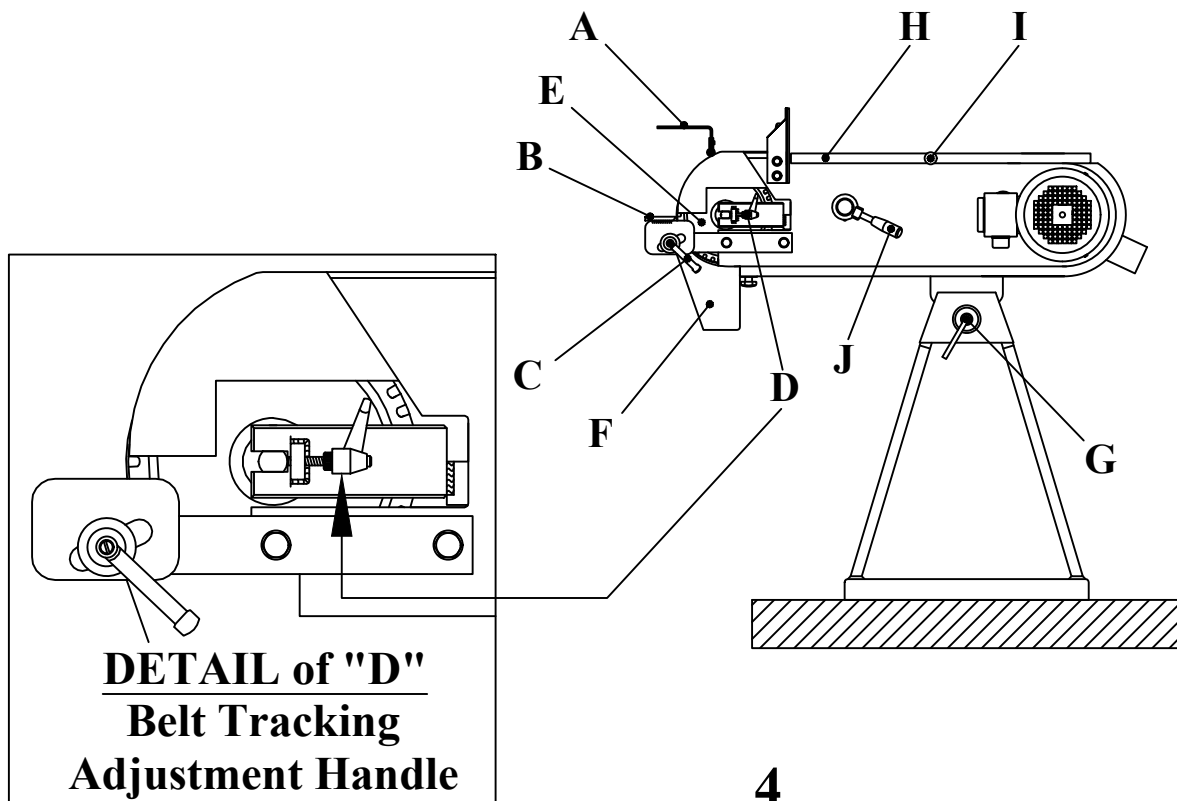
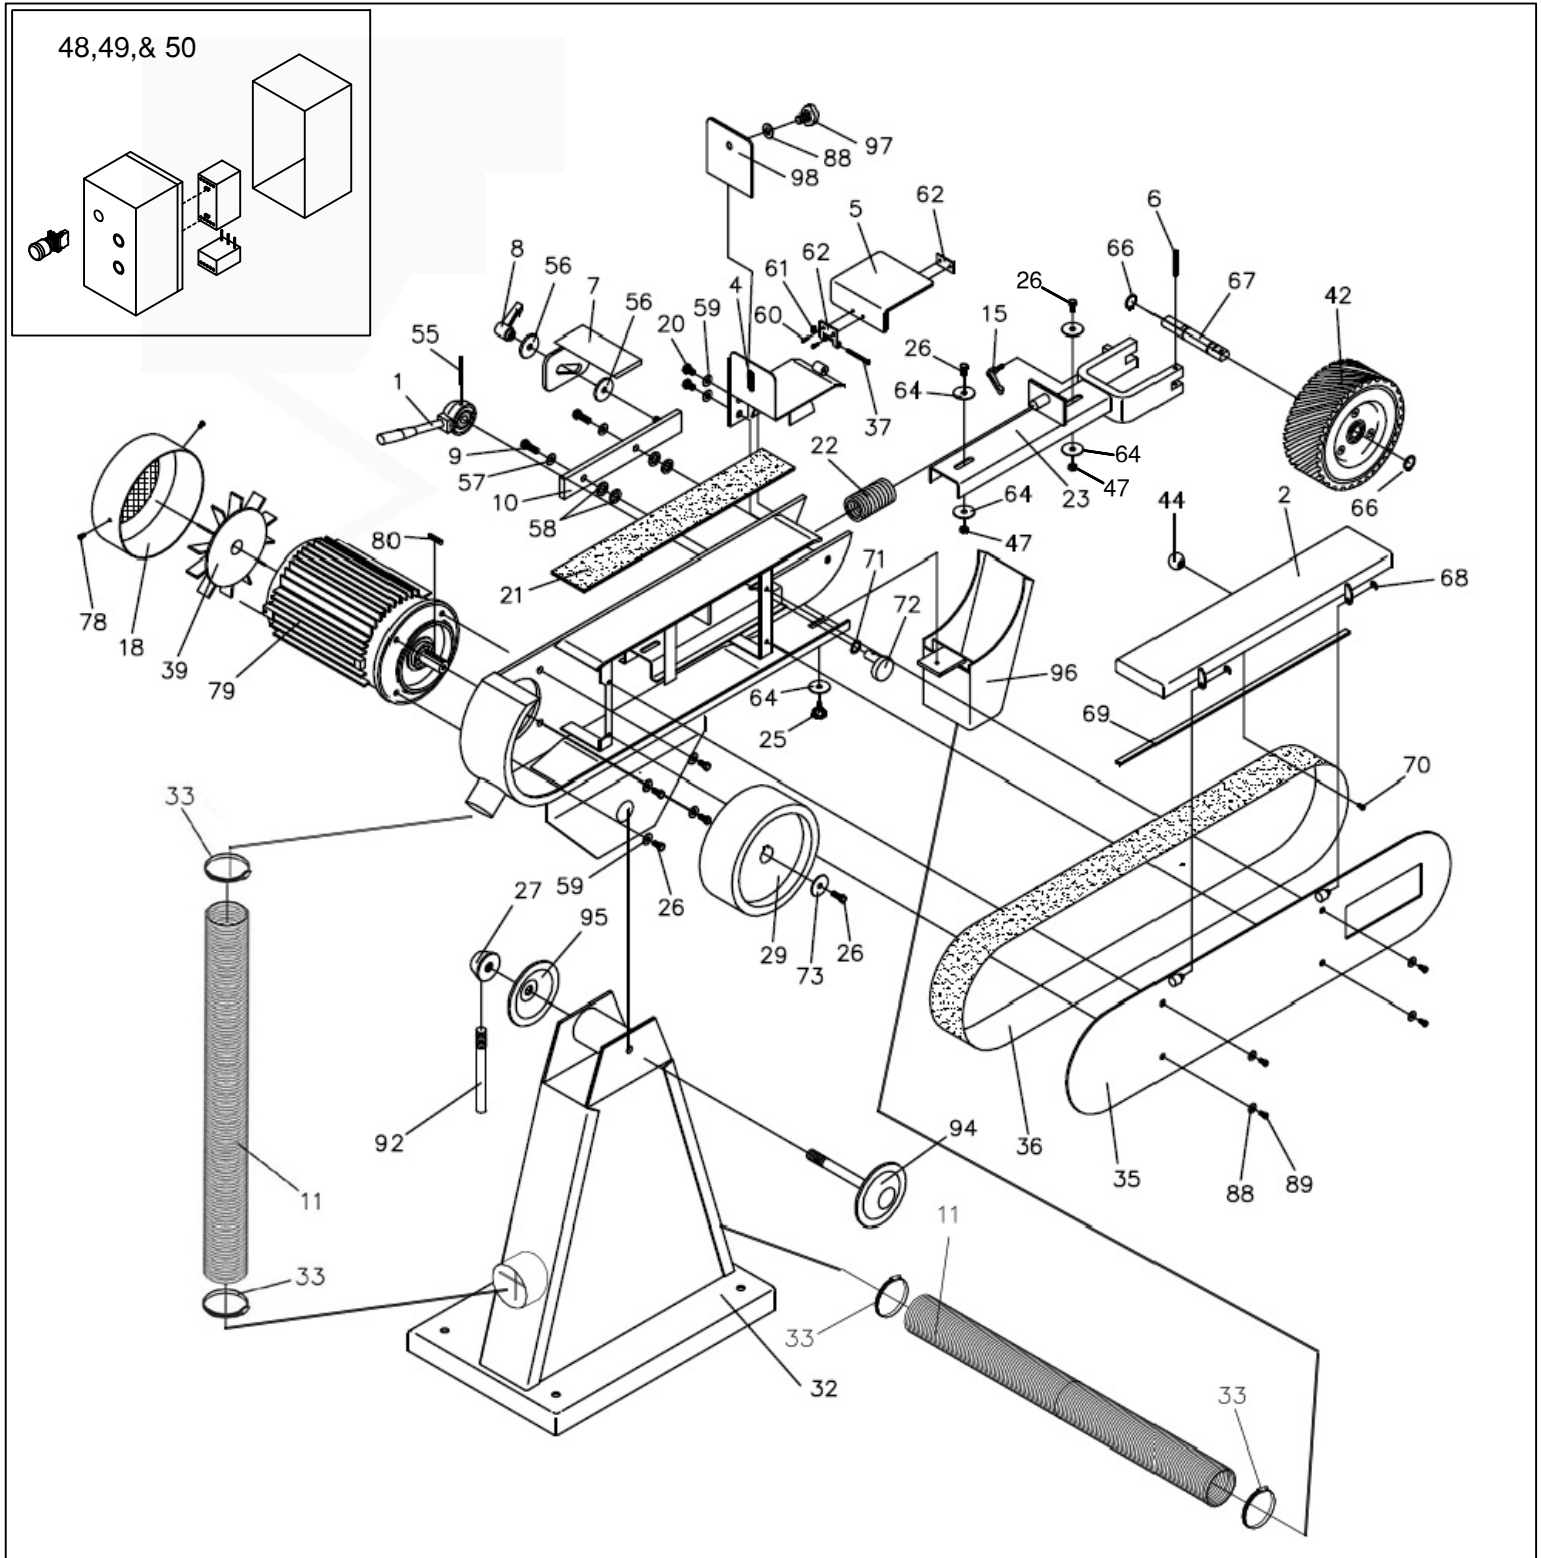

FIGURE 1.1
FIGURE 3.1
Eye shield, suction hose and (if equipped) dust bag must be mounted before use. The clamps for mounting the suction hose are placed in the dust bag. The eye shields (A) must be mounted into the eye shield fitting (see Figure 1.1). You can also refer to Figure 3.1 which may be helpful as it is an exploded view of the machine.
After adjustment and connection, the belt grinding machine is ready for use. The grinding can take place by the contact wheel or on the surface grinding table by opening the cover (H) (see Figure 1.1). By lifting the ball handle (I) the cover (H) can be opened and make grinding of long materials possible. The life of a new belt can be extended if a person starts grinding by using light pressure.
When changing the belt, it is released by turning the belt release handle (J) in a counterclockwise direction (See Figure 1.1). Note that the handle can be somewhat difficult to turn. Open the cover (H). The side plate (L) is open all around the outside for belt removal. The worn-down belt (K) is removed by driving the belt against the direction of rotation, the belt is removed from the machine by the drive wheel. Then the new belt can be installed. You must make sure that the direction of the arrows on the back side of the belt correspond to the direction of rotation. Turn back the belt release handle (J) to apply tension to the belt (See Figure 1.1). Bring belt into alignment with the handle (D). (See "Detail of D" on page 4)